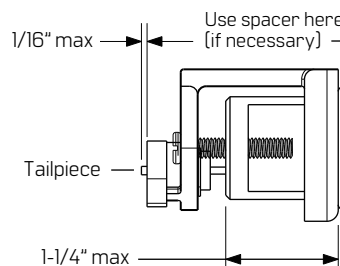

Figure 2 Max. dimensions for cylinder assembly
- 1.3 Check assembled dimensions and make adjustments as needed. See **Figure 2**.